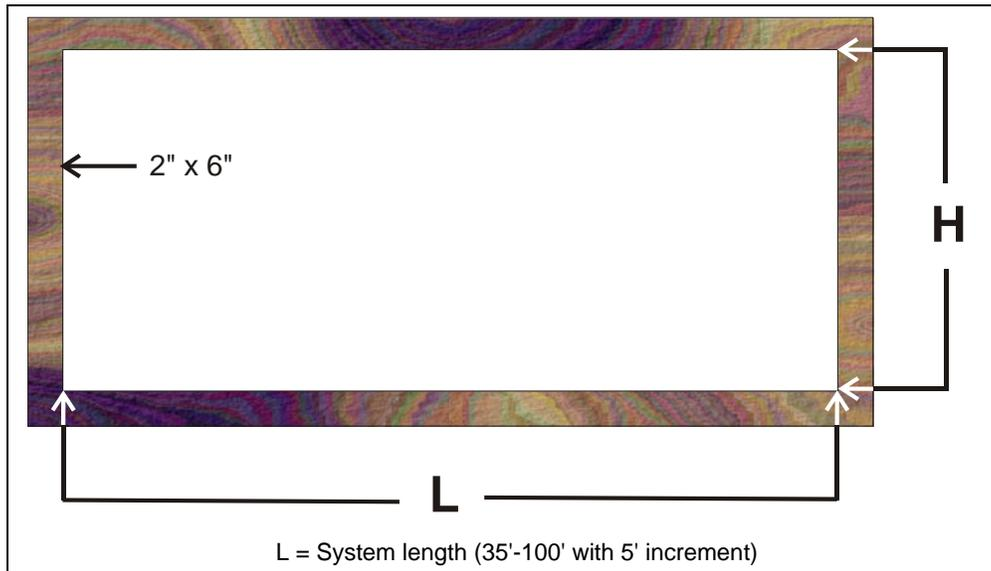

Figure 3A
1. Add a 2" x 6" frame around the existing evaporative cooling system opening. The framed opening should be height (H) x evaporative cooling system length (L). (See Figure 3A.)